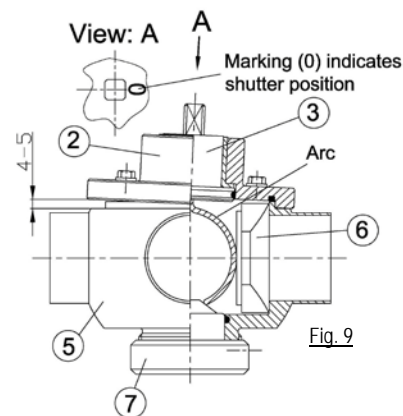

Fig. 9
2. Insert bearing bush (9) into bearing cap (2).
3. Insert O-rings (4), (8) and (10).
4. Assemble pivoted axle with arc (3) and bearing cap (2). Pay attention to the marking (0) on the square pin of the pivoted axle (3) → indicates the shutter position (6) (see Figure 9).
5. Insert shutter (6) into valve casing (5).
6. Fit the pivoted axle with the arc (3) together with bearing cap (2) to the valve casing (5) as follows:
- a) The pivoted axle with arc (3) is designed that it exerts a defined pressure on the shutter (6) during assembly. On account of the preload characteristics, the bearing cap (2) declines approx. 4-5mm off the valve casing (5) on the opposite side of the shutter (see Figure 9).
- c) Fasten the handle (1) in the desired position.